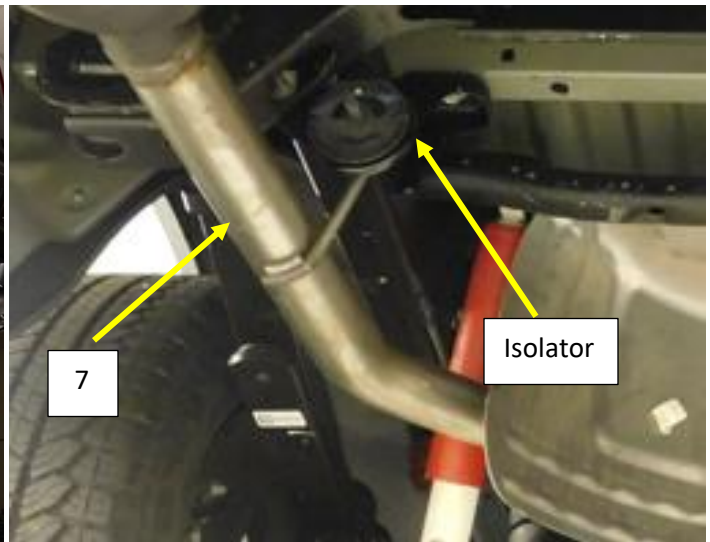

**Figure.17**
23. Install the Right rear tail pipe (6) on to the Right front Tail pipe (4) and tighten the clamp to allow for adjustment. **Fig.17**
24. Install the right rear tail pipe isolator on to the hanger rod and mount the isolator to the frame rail. **Fig.17**